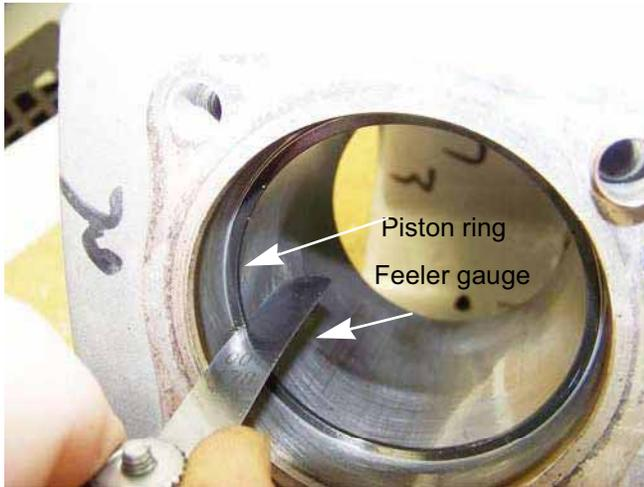

Figure 10.9
3. Insert one ring into the cylinder. Push it down about one inch from the top. See Figure 10.9.